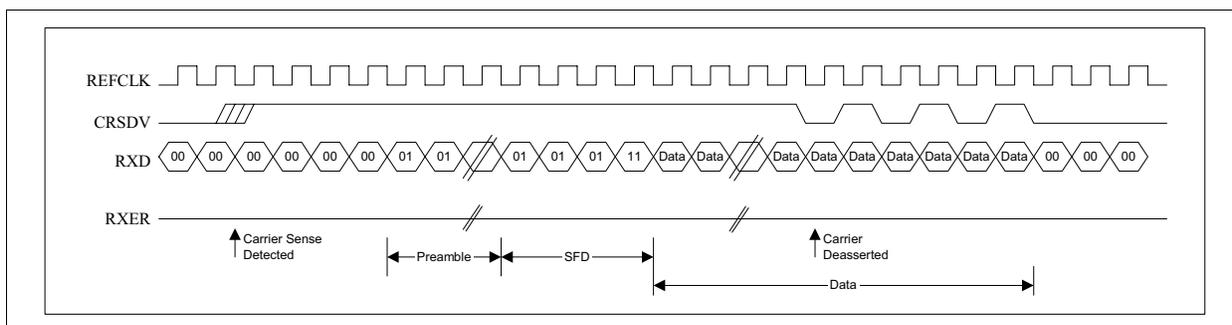

Figure 6 RMII Reception Without Error
Figure 6 shows the relationship among REFCLK, CRSDV, RXD and RXER while receiving a valid packet. Carrier sense is detected, which causes CRSDV to assert asynchronously to REFCLK. The received data is then placed into the FIFO for resynchronization. After a minimum of 12 bits are placed into the FIFO, the received data is presented onto RXD[1:0] synchronously to REFCLK. Note that while the FIFO is filling up RXD[1:0] is set to 00 until the first received di-bit of preamble (01) is presented onto RXD[1:0]. When carrier sense is de-asserted at the end of a packet, CRSDV is de-asserted when the first di-bit of a nibble is presented onto RXD[1:0] synchronously to REFCLK. If there is still data in the FIFO that has not yet been presented onto RXD[1:0], then on the second di-bit of a nibble, CRSDV reasserts. This pattern of assertion and de-assertion continues until all received data in the FIFO has been presented onto RXD[1:0]. RXER is inactive for the duration of the received valid packet.